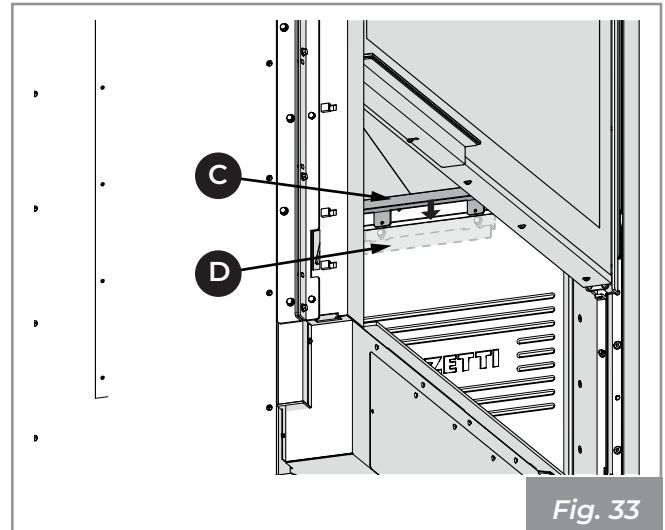

Fig. 33
- 2) Secure the refractory brick with the bracket (C) which fits into the support (D) (Fig. 33).